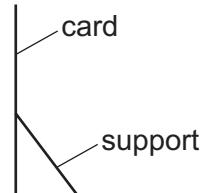

Fig. 3.3
- (iv) Screen. A white sheet of stiff card, approximately 15 cm \times 15 cm and fixed to a wooden support, is suitable. See Fig. 3.3.